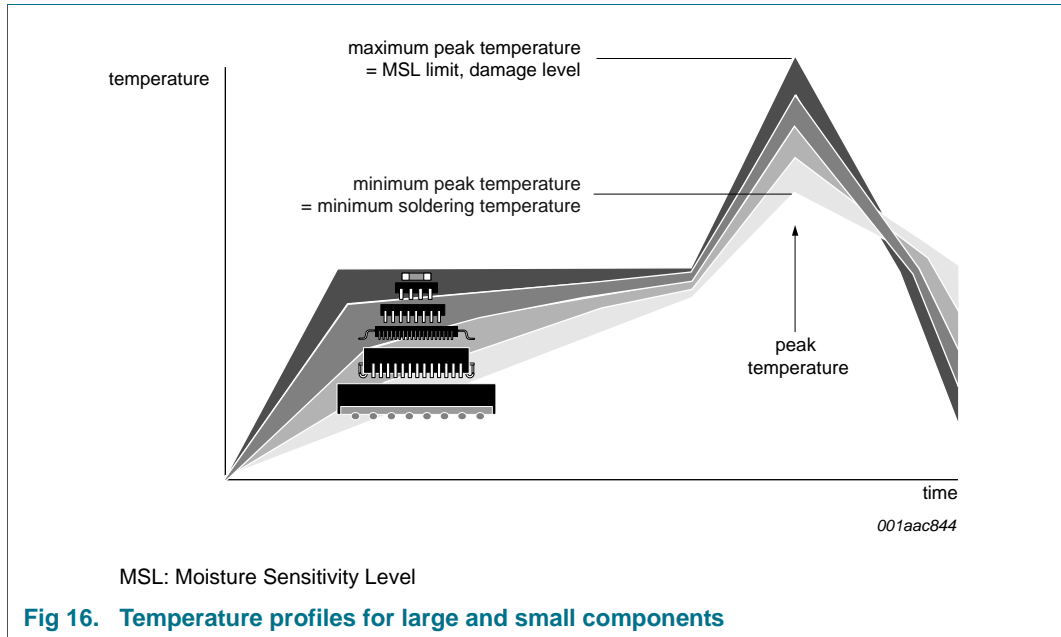

Fig 16. Temperature profiles for large and small components
- Lead-free versus SnPb soldering; note that a lead-free reflow process usually leads to higher minimum peak temperatures (see Figure 16) than a PbSn process, thus reducing the process window
Studies have shown that small packages reach higher temperatures during reflow soldering, see Figure 16.